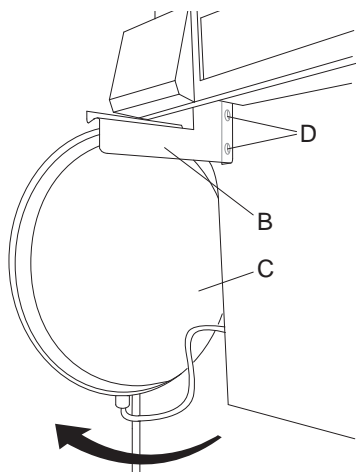

Fig. 25c
8.5.4 Turn the expansion vessel (C) and the bracket (B) 90° clockwise and hook it onto the holes (D) (see fig. 25c).